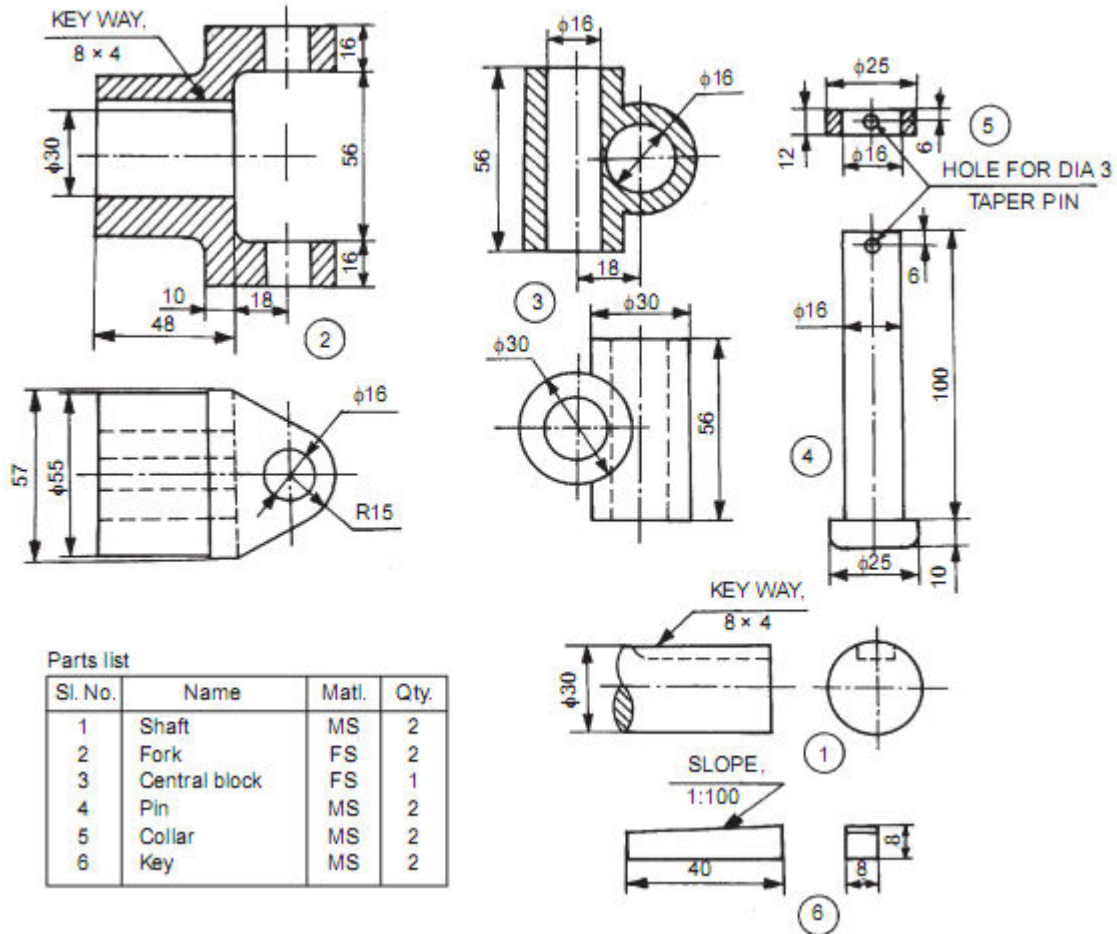

Fig 1
9. Assemble the parts of universal coupling and shown in Fig. 1 and draw, (i) sectional view from the front and (ii) view from the right.